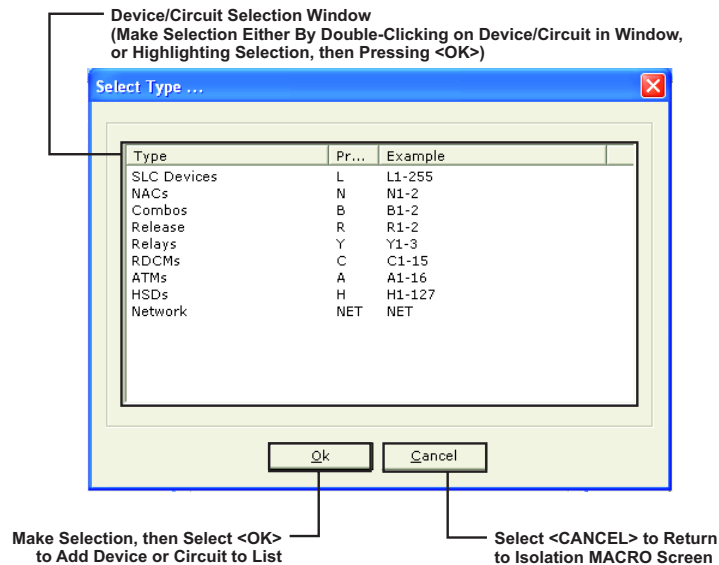

Figure 2-44. List of Selections for MACROs Screen
1. Select the **<Add>** button. Choose the initiating devices and/or output devices/circuits from the list shown in Figure 2-44.